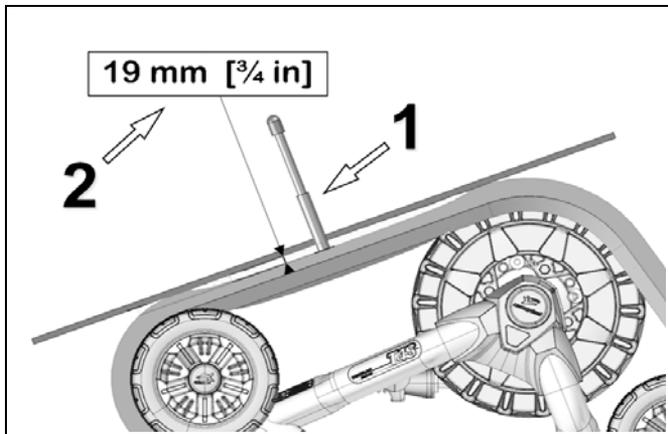

Figure 30
The table below shows the force (1) applied and the deflection (2) which must occur to correctly set track tension. Refer to Figure 30.